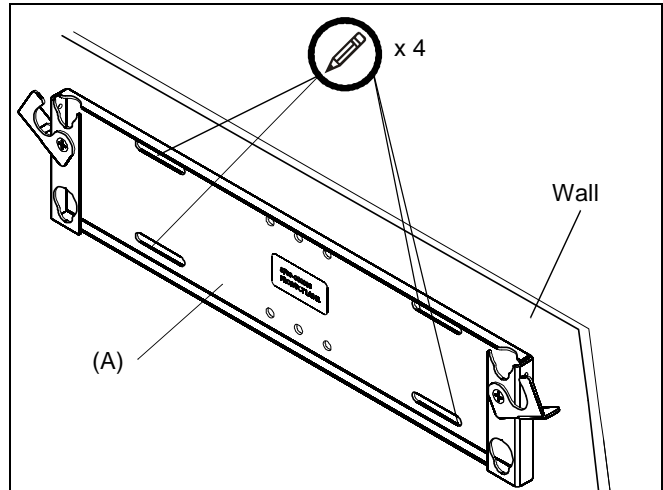

Figure 2
1. Locate and mark the four mounting holes on the wall. (See Figure 2)